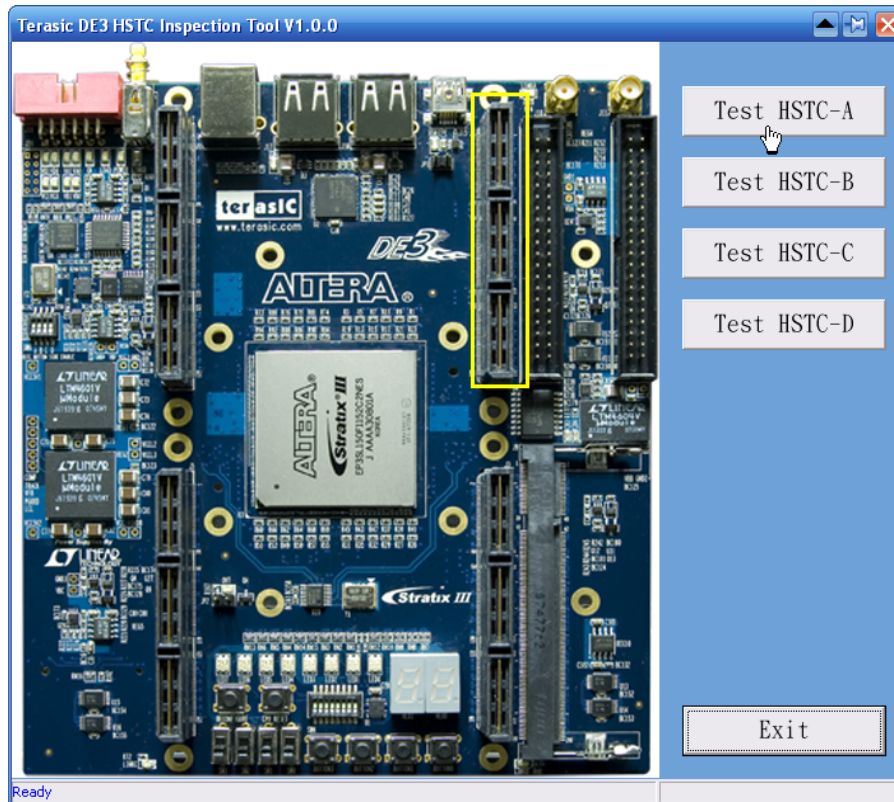

Figure D.3. The DE3\_HSTC utility
6. In the **DE3\_HSTC** utility window, press "**Test HSTC-A**" button to start testing the HSTC connector A as shown in Figure D.3.